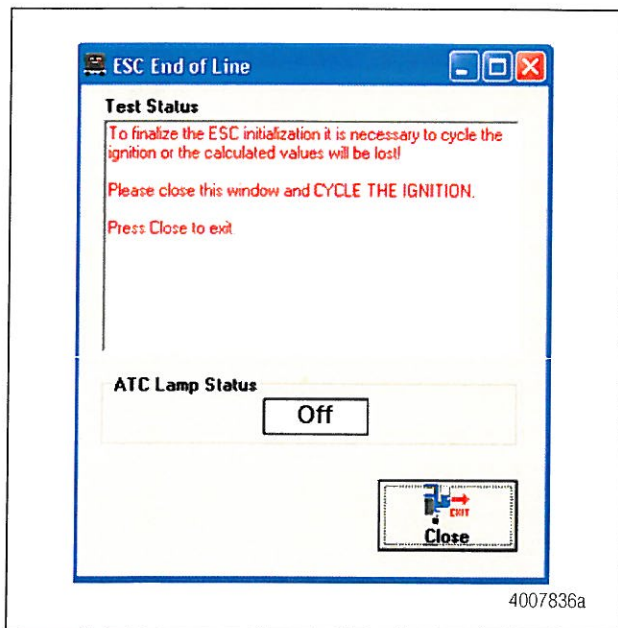

Figure 26
11. Read the message box and follow the instructions carefully. Click Close. Cycle the ignition. Figure 26.